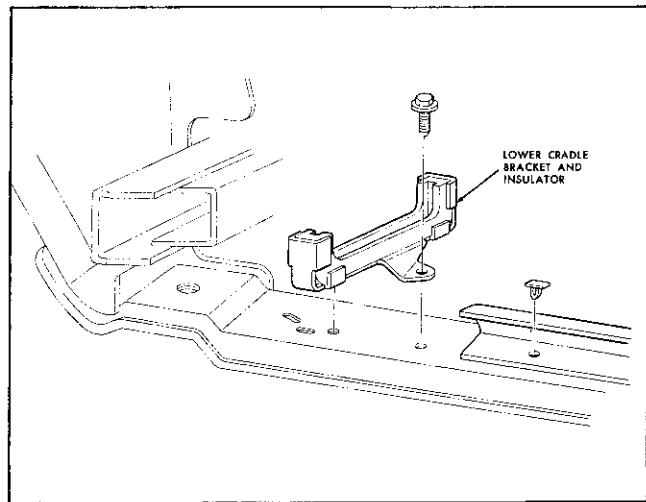
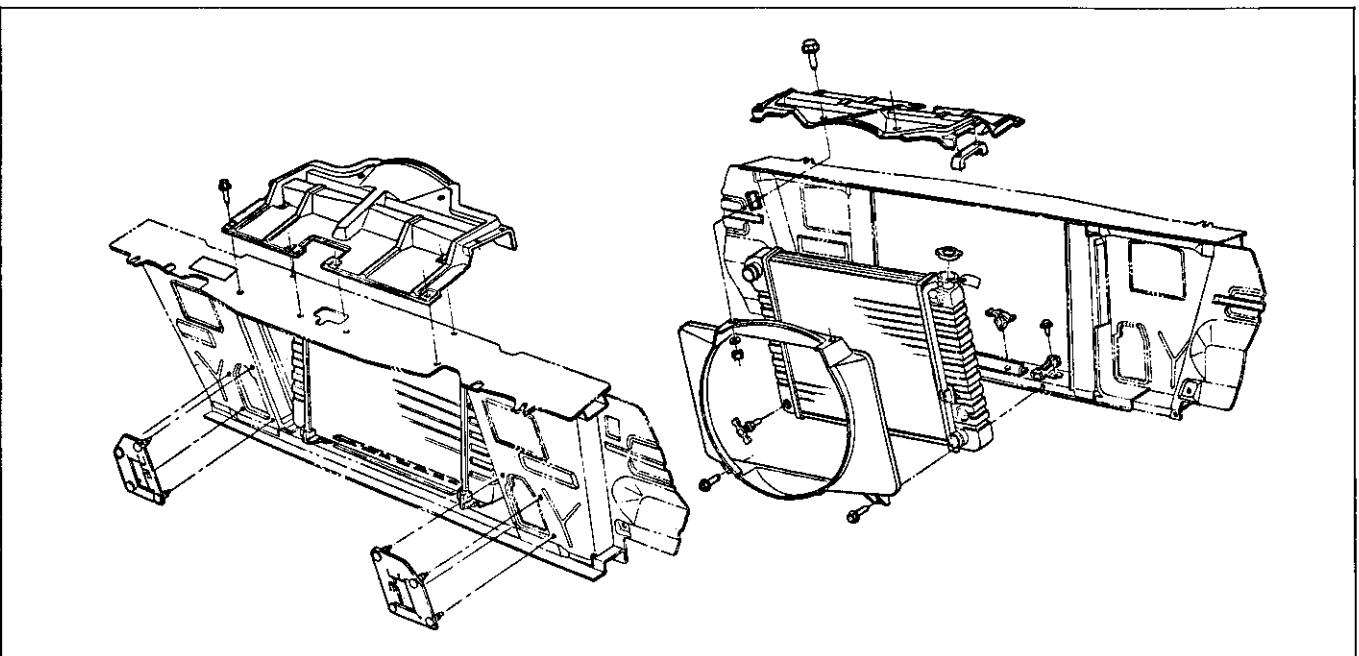

Fig. 13-1 Lower Cradle Bracket and Insulator
Fig. 13-2 Pontiac Support and Baffle Assembly
Pontiac and Tempest radiators are supported by insulated cradle type brackets (Fig. 13-1), which retain both the lower and upper radiator tanks. The two upper cradles are attached to the bottomside of the upper panel mounting assembly (Figs. 13-2 and 3) which, in turn, is fastened to the front end support and baffle assembly.
- NOTE: The upper portion of radiator is held in place by cradle type brackets attached to bottom side of upper panel mounting assembly (Figs. 13-2 and 3).*
NOTE: Radiator is held at bottom by two cradle type brackets and insulators secured to support and baffle assembly (Fig. 13-1).